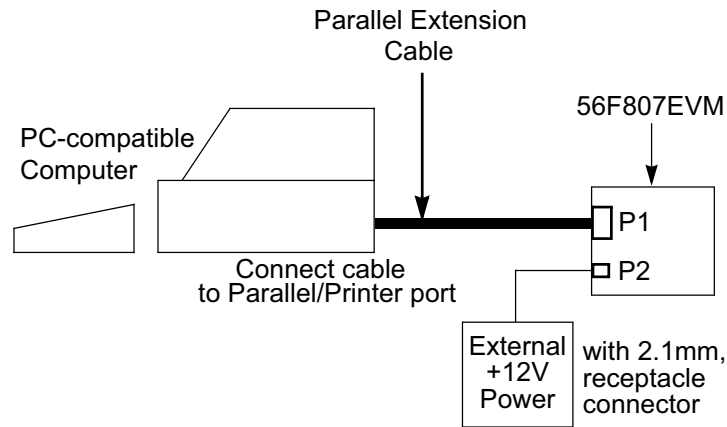

Figure 1-3. Connecting the 56F807EVM Cables
An interconnection diagram is shown in Figure 1-3 for connecting the PC and the external +12V DC power supply to the 56F807EVM board.
2. Connect the other end of the parallel extension cable to P1, shown in Figure 1-3, on the 56F807EVM board. This provides the connection which allows the host computer to control the board.
4. Connect the 2.1mm output power plug from the external power supply into P2, shown in Figure 1-3, on the 56F807EVM board.